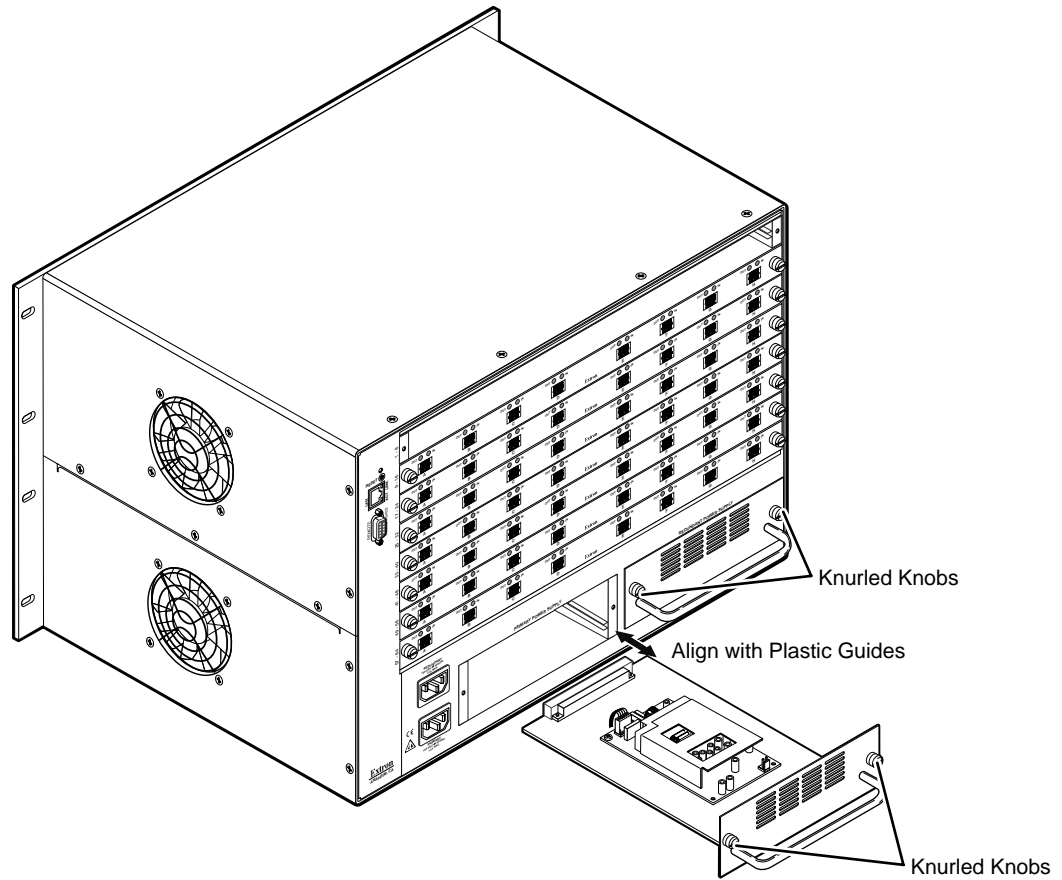

Figure 7-3 — Power supply replacement
2. Gently pull on the handle to loosen the power supply from the backplane (figure 7-3).
2. Align the flanges on the power supply module with the left and right power supply guides (figure 7-3).